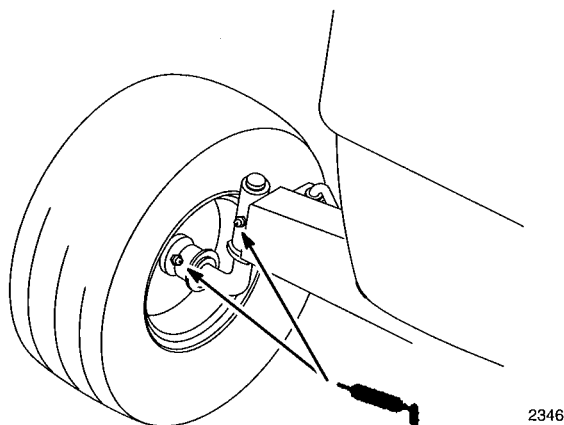

Figure 22
1. Lubricate the front wheels and steering spindles until grease begins to ooze out the bearings (Fig. 22).